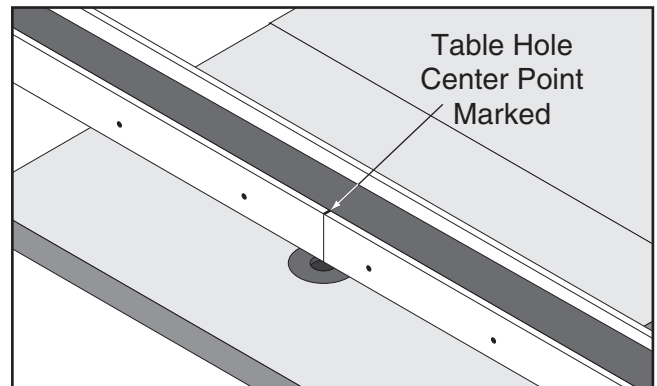

Figure 16. Table hole center point marked on fence face.
2. Move the table saw fence next to the opening on the router table extension wing and mark the center point of the table hole opening on the right-hand side of the table saw fence face (**Figure 16**).